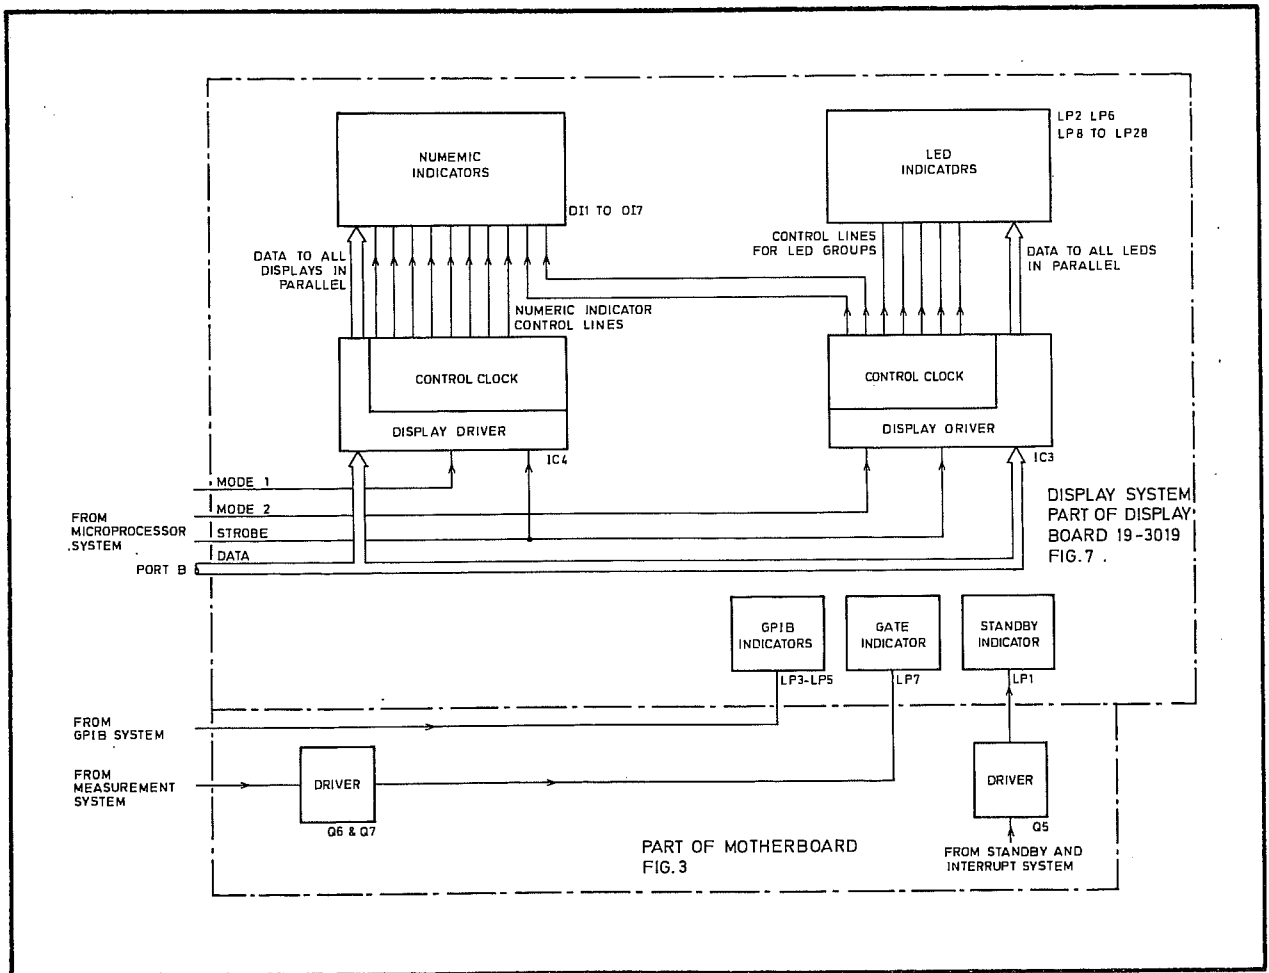

Fig. 6.11 The Display System
- 105 A block diagram of the display system is shown in Fig. 6.11. The seven-segment display elements are multiplexed under the control of the display drivers. Other LEDs on the front panel (e.g. O/F, REM, ADDR, SRQ etc.) are held on or off by control signals from other systems within the instrument.